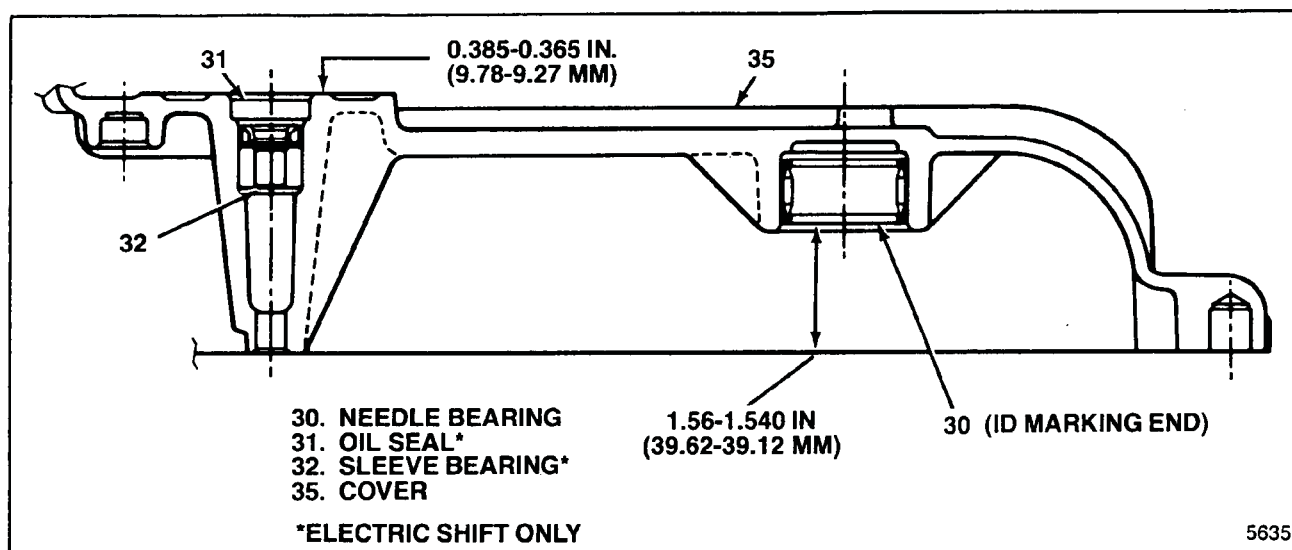

Figure 5-20. Cover Assembly Dimensions
a. On electric shift units only, verify that four o-rings (one on wire and one each on three studs) are in place on clutch coil assembly (34). Install clutch coil assembly in inside of case cover, with electrical wire and studs extending through cover. Use care not to kink or trap electrical wire under clutch coil assembly. Attach with three nuts (33) and torque to 6-8 lb-ft (8.1-11.0 Nm).
b. On electric shift units only, press sleeve bearing (32) and oil seal (31) into cover to dimension shown in figure 5-20) using suitable drift.
c. Position cover (35) on bed of suitable press so that open face of cover is up and parallel with press bed.
d. Position end of needle bearing (30) with identification marking up and press into cover (35) to dimension shown in figure 5-20.
e. Press in ball bearing (29) to bottom in cover (35).